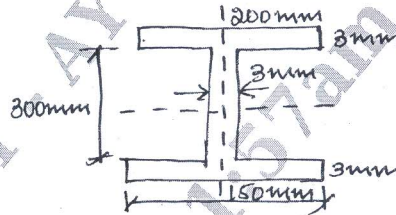

Fig. Q2(a)
- 2 a. Define shape factor and determine the plastic and section modulus of a built up section as shown in Fig.Q2(a).